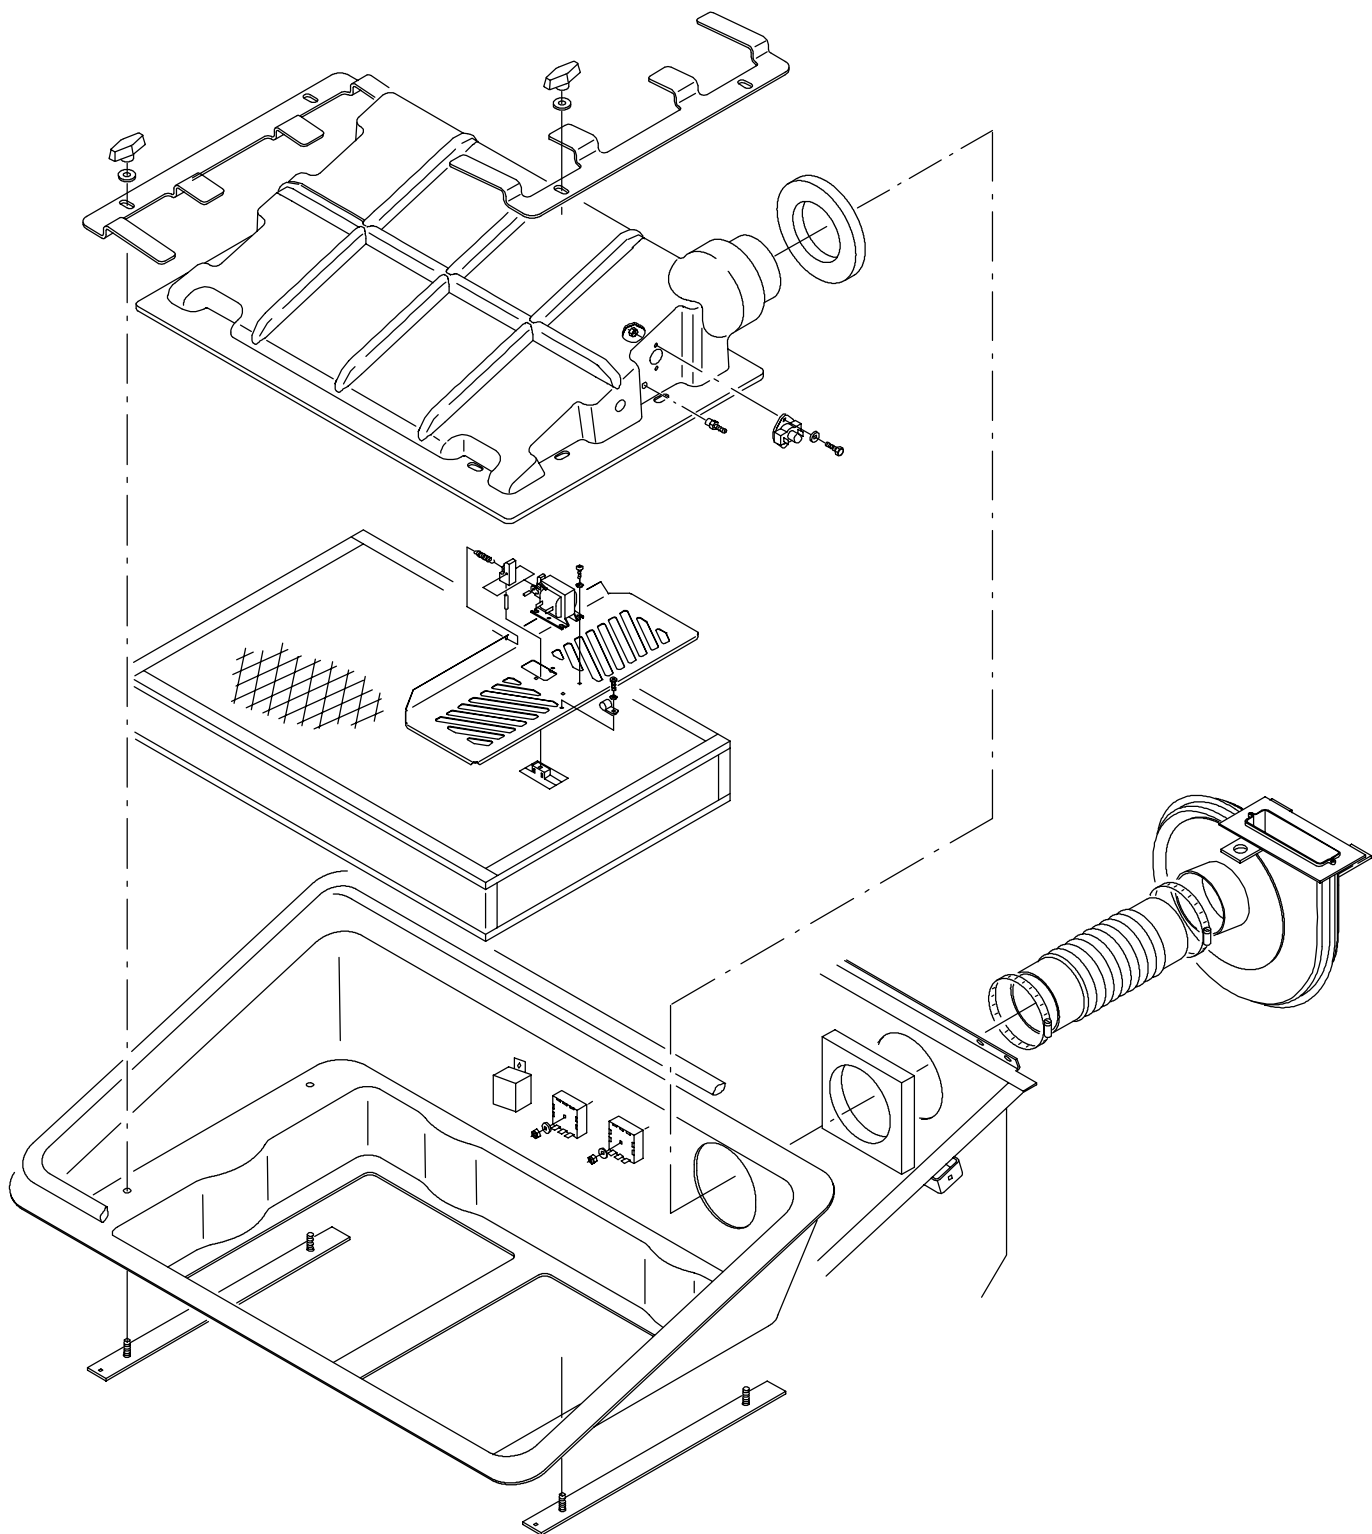
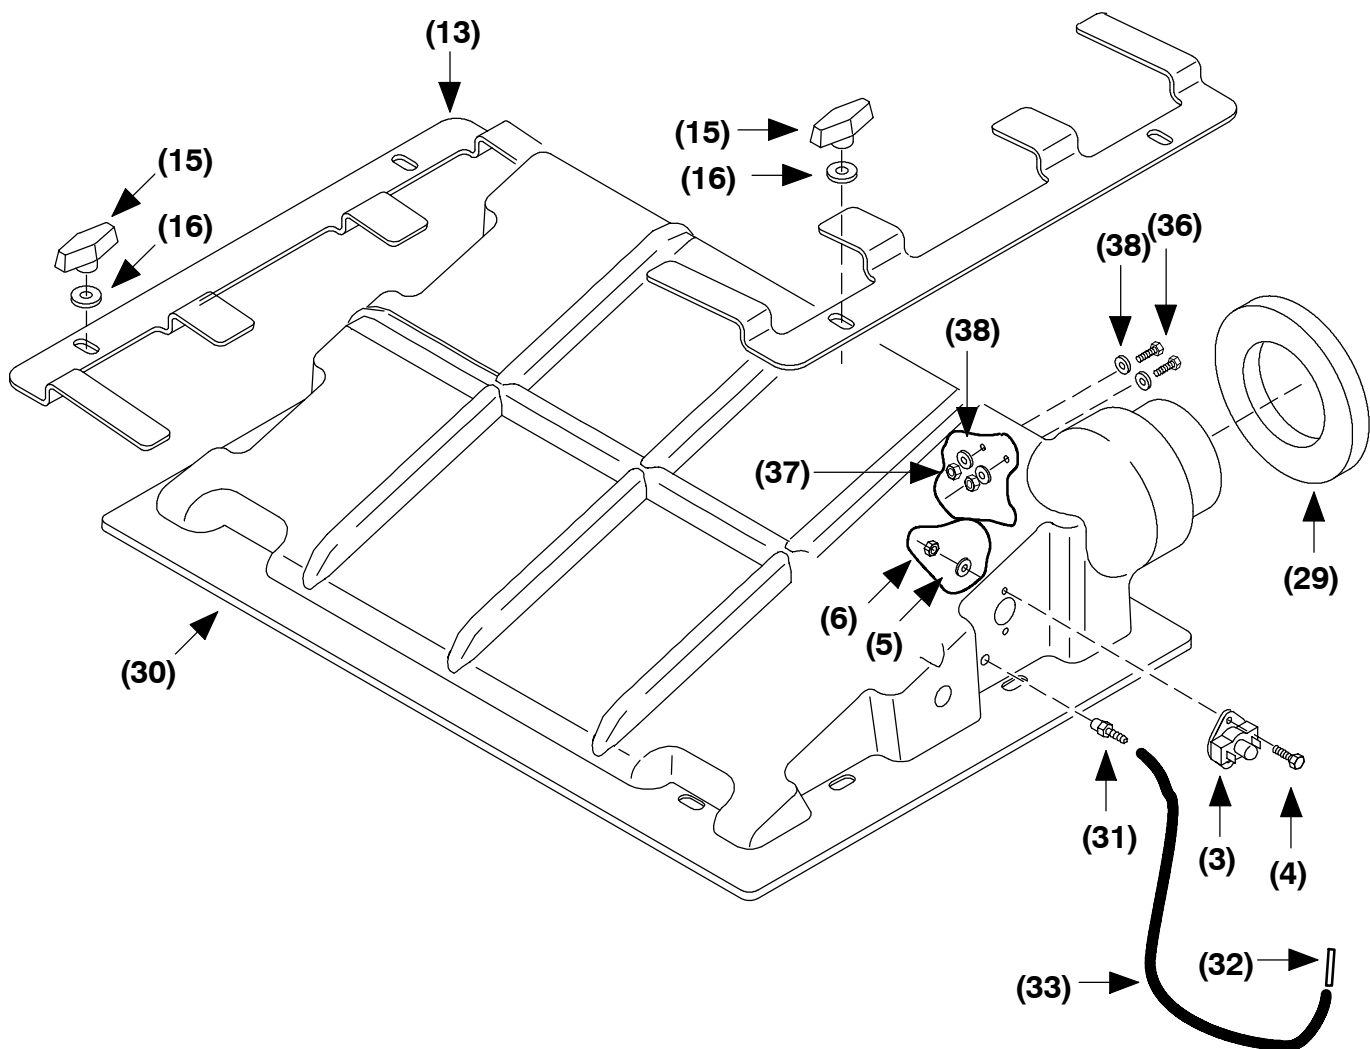

FIG. 2 - New Filter Shaker Assembly
FIG. 3 - New Filter Shaker Assembly
4. Pull the filter tray forward slightly and loosen the worm drive clamp holding the flexible hose to the back of the vacuum inlet tube. Pull the flexible hose off the tube. (Refer to FIG.2)
6. Position the new filter tray assembly into the machine hopper. (Refer to FIG. 2, 3, 4, and 5)
7. Reconnect the flexible hose to the vacuum inlet at the back of the new filter carrier tray (1). Tighten the worm drive clamp. (Refer to FIG. 2)
8. Plug the existing hopper harness into the two prong plug of the new shaker harness (27).
9. Connect the two remaining wires of the existing hopper harness into the thermo sentry (3). (Refer to FIG. 3)
10. Connect the vacuum hose (33) and fitting (32) into the existing vacuum hose that is tied up with the hopper harness wires. (Refer to FIG. 3)